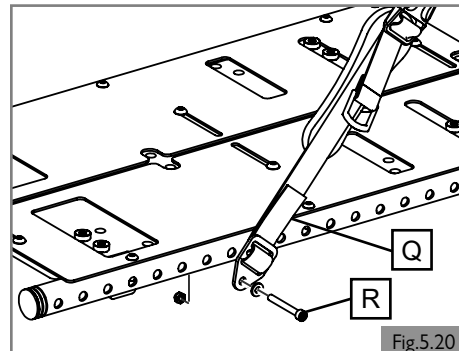

Fig.5.20
5.13 Lap belt / seating positioning belt (Fig. 5.20)
1. Attach belt (Q) to the seating frame using provided screws on the left and on the right. (Fig. 5.20)
2. Tighten (R). See section 9 for specified torque values.